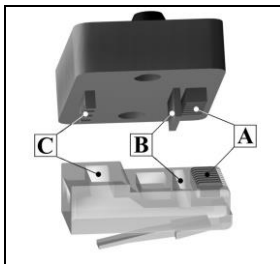

Fig.1.
\*Note: Fig.1. represents unshielded 8P modular plug and corresponding part of die-set. Shielded modular plugs lack primary (3) and secondary (2) strain relief booth and unshielded CAT5 plugs lack secondary (2) strain relief booth. Choose die-sets correspondingly.